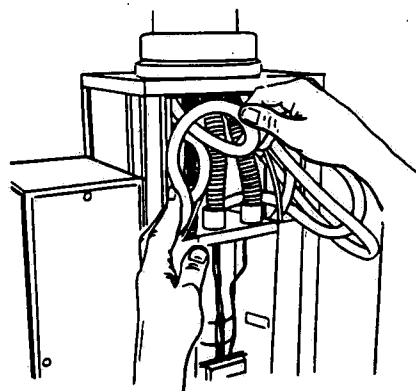

Figure 6-17. Shaping Gas Lines
8. Starting with one of the lines protruding from the front of the support head assembly, make a flowing bend as shown in Figure 6-17. Shape the bend so that it can be inserted into the support head assembly without forcing it.